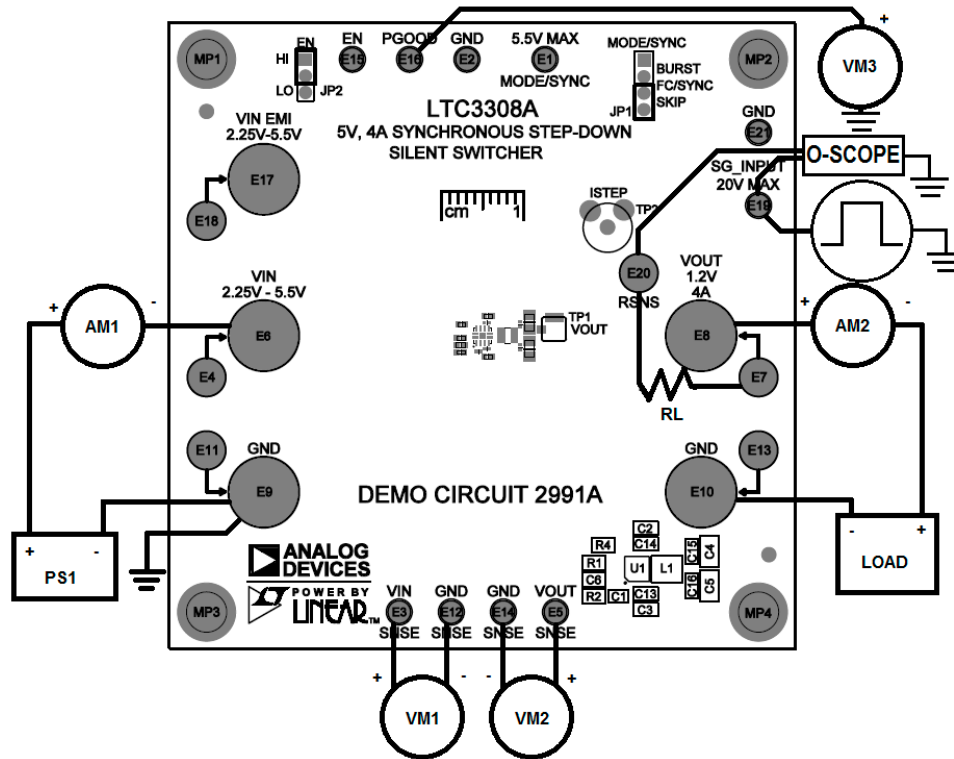

Figure 1. Test Setup for the DC2991A Demo Board
Demonstration circuit 2991A is easy to set up and use to evaluate the performance of the LTC3308A. Refer to Figure 1 for proper measurement equipment setup and follow the procedure below.
NOTE: For accurate V_{IN} , V_{OUT} and efficiency measurements, measure V_{IN} at the V_{IN} SNSE and GND SNSE turrets and V_{OUT} at the V_{OUT} SNSE and GND SNSE turrets as illustrated as VM1 and VM2 in Figure 1. When measuring the input or output voltage ripple, care must be taken to avoid a long ground lead on the oscilloscope probe.
13. To test the transient response with a base load, add the desired resistor to produce a minimum load between V_{OUT} and RSNS turrets (R_L shown on Figure 1). Note that the total load resistance will be R_L plus R11 (100m Ω).